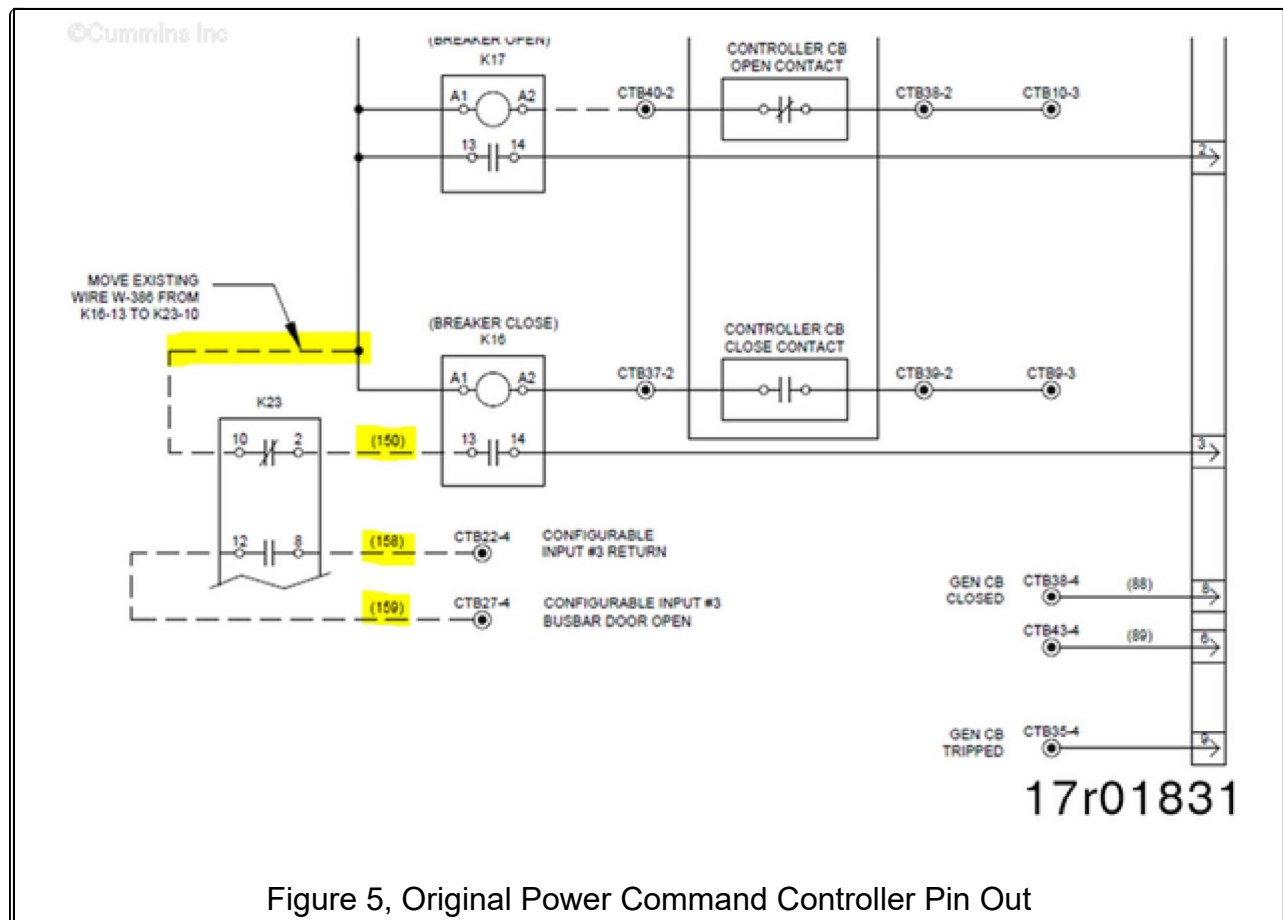

Figure 3, Mounting of DIN Rail and Relays
4. Place end stop, 3 pole relay (K23), 1 pole relay (R16) onto the Din rail. (See Figure 3)